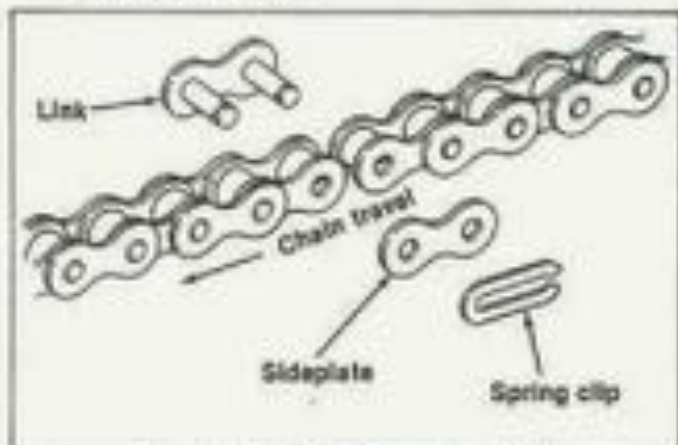

Figure 6-9. Chain Connecting Link
See Figure 6-9. Be sure clip is correctly and securely locked on pin ends with open end trailing direction of chain travel.
1. See Figure 6-9. Locate and remove the spring clip on the chain connecting link.